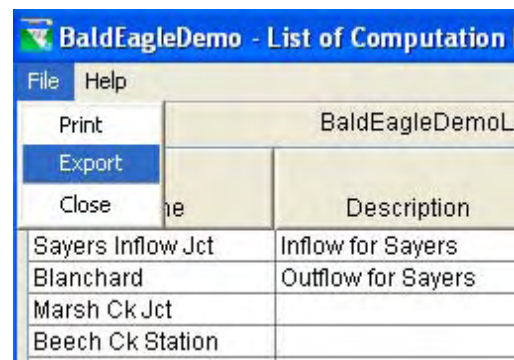
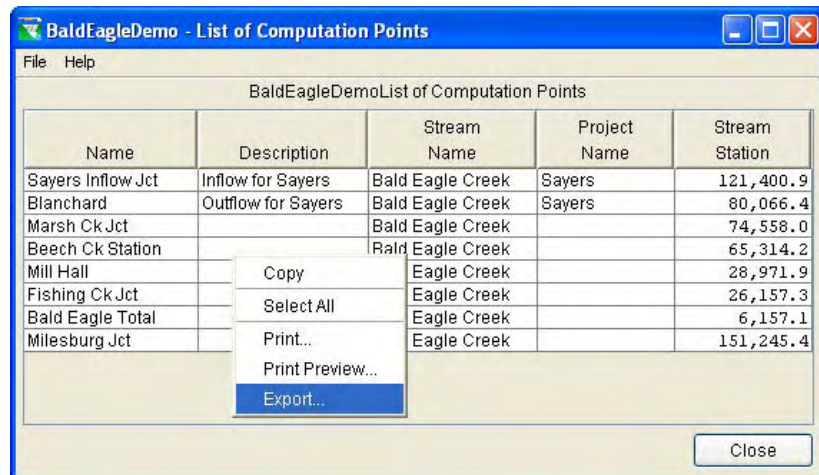

Figure 2.32 Select Export from the Report's File Menu
Figure 2.33 Select Export from Report's Shortcut Menu
2. From the **File** menu of the opened report, select **Export** (Figure 2.32). Or, you can right-click anywhere within the tabulated data of the report and from the shortcut menu select **Export** (Figure 2.33).